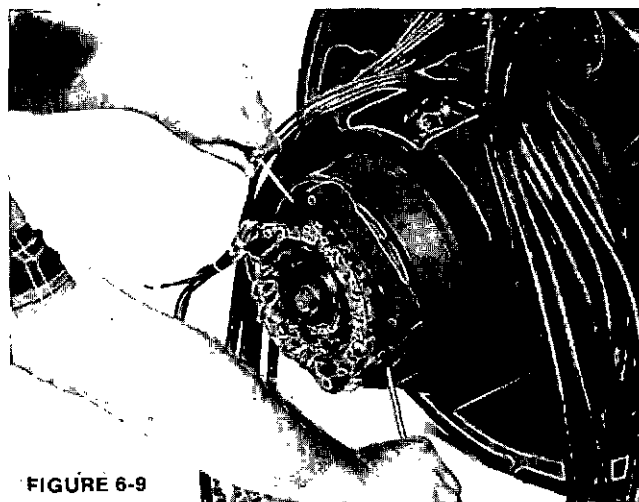

FIGURE 6-9
3. Remove the four mounting capscrews. (See Figure 6-9.)
4. Using 2 screwdrivers, gently pry the PMG stator from the mounting pad and slide over the PMG rotor. The magnets used in the PMG are very strong. They will resist removal of the PMG stator. (Figure 6-9.)